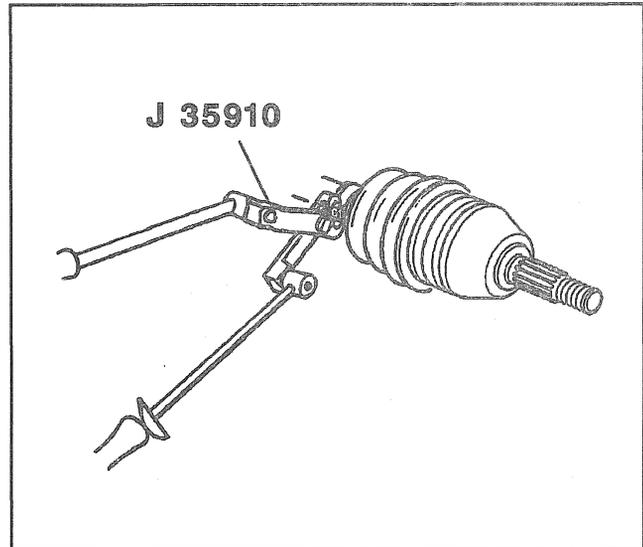

Figure 54—Removing C/V Joint
←→ Remove or Disconnect (Figures 54)
2. Small seal-retaining clamp on axle shaft using J 35910 (Figure 54).